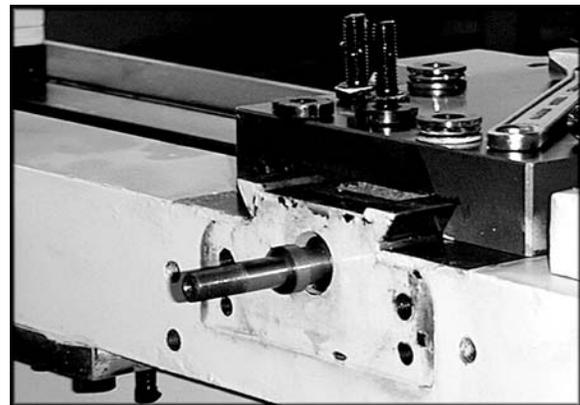

Figure 2
4. Remove the inner bearing assembly from behind the block. (Figure 2).